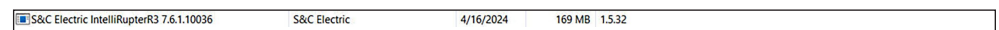

Figure 59. The version 7.6.1 firmware selected to uninstall.
STEP 12. After the upgrade is complete, uninstall the 7.6.1 firmware from the computer by going to the **Control Panel>Programs>Uninstall a program** option on the computer and selecting the version 7.6.1 installer. See Figure 59.